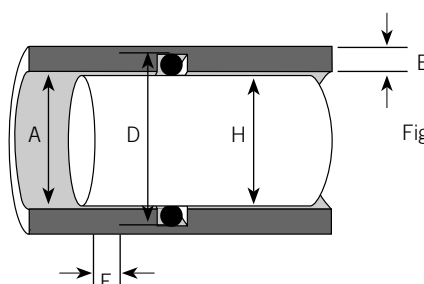

Fig. 1-24
2. Female or Tube - the O-ring groove is located in the housing or cylinder and a tube is installed through the O-ring I.D. (fig. 1-24).